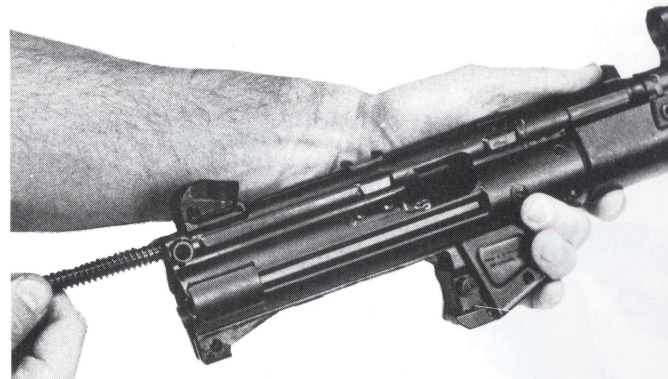

Figure 15B
6. With one hand draw the cocking handle to the rear and catch the rear of the recoil spring rod with your other hand. Remove the bolt group from the pistol by pulling back on the recoil spring rod. (Figure 15B)